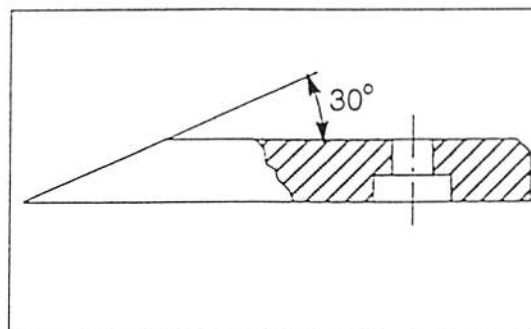

Fig.12.
3. Sharpen the knives at a 30 degree angle as shown in fig.12.